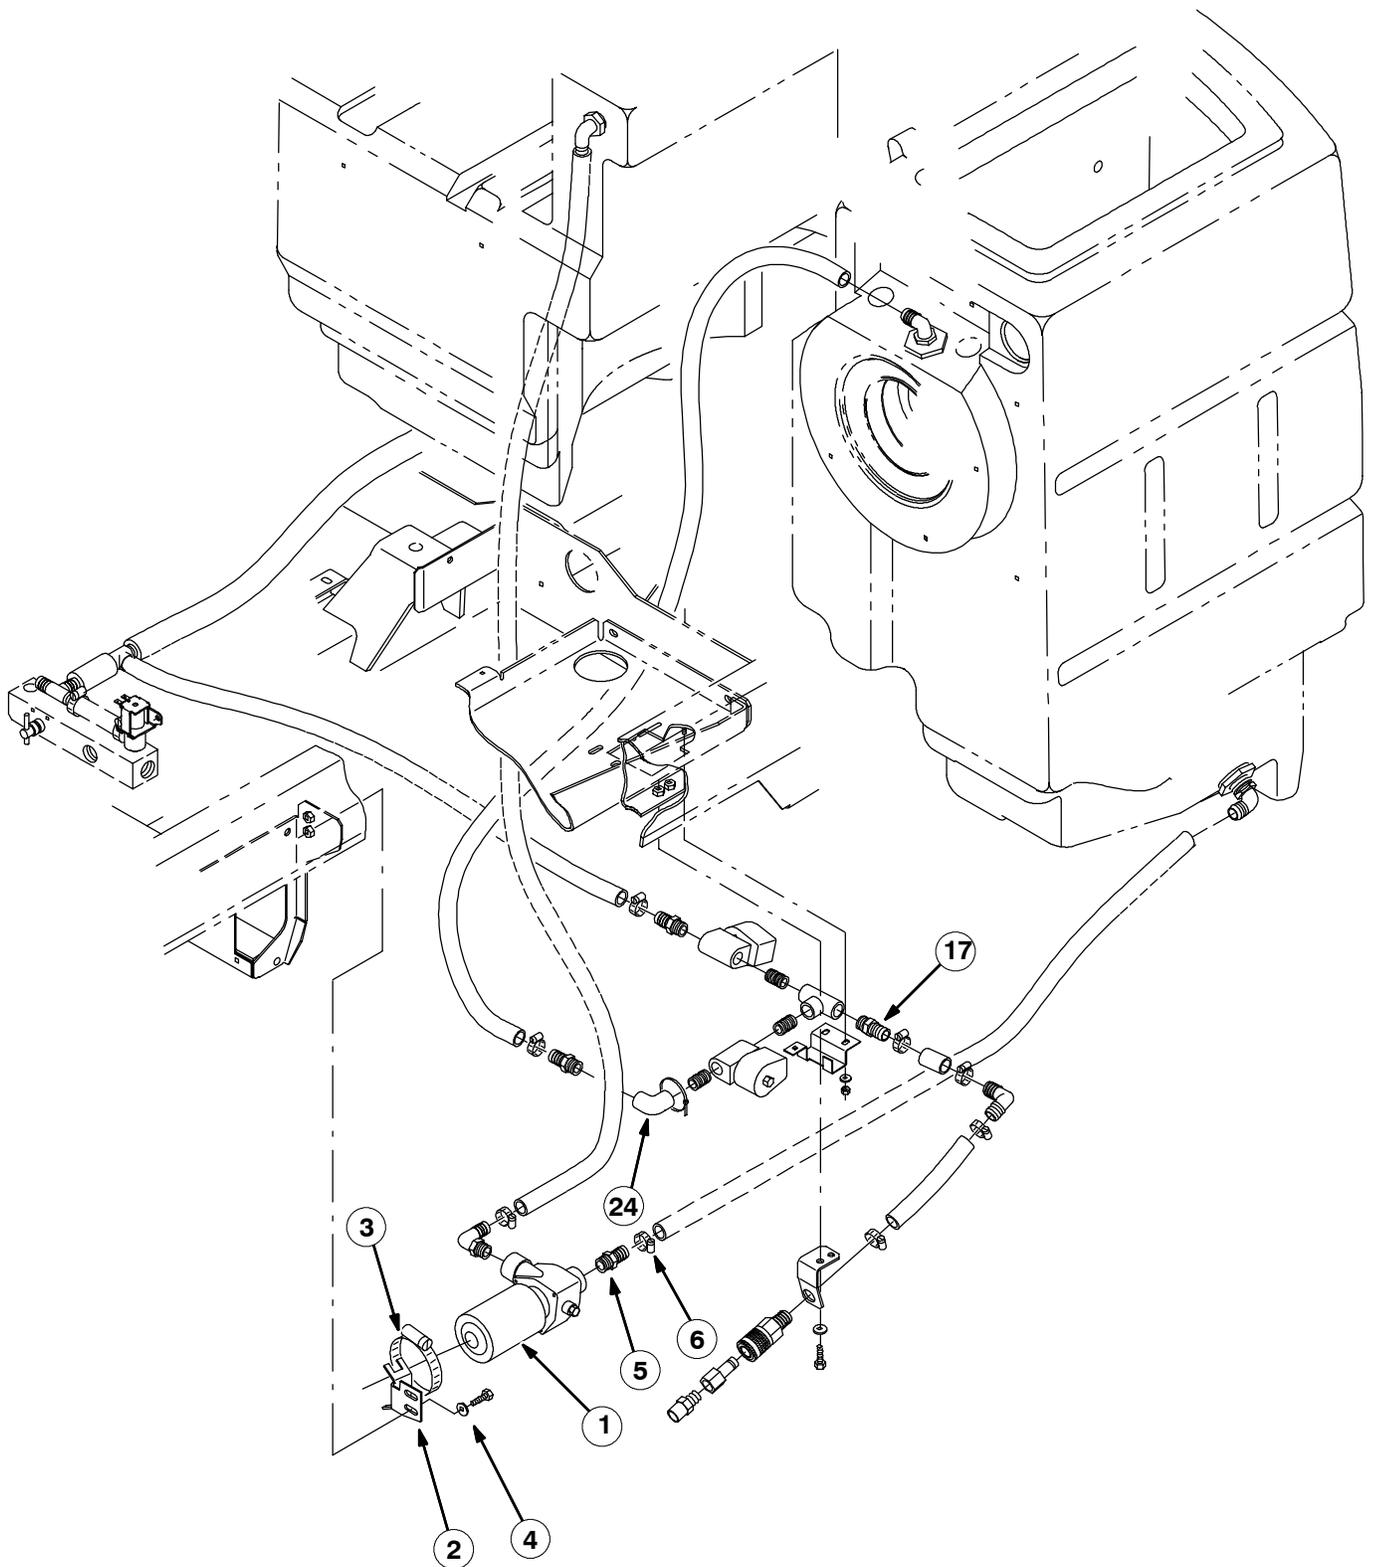

FIG. 1 - NEW ES™ PUMP AND AUTOFILL GROUP (xxxxx-)
(Refer to FIG. 1 and 2)
10. Install the fittings 79273-2 (5) and 69785 to the pump (1). (Refer to FIG. 1)
11. Remount the pump (1) assembly to the frame. (Refer to FIG. 1)
12. Build up the solenoid valve assembly, with the following set aside parts: (Refer to FIG. 1)